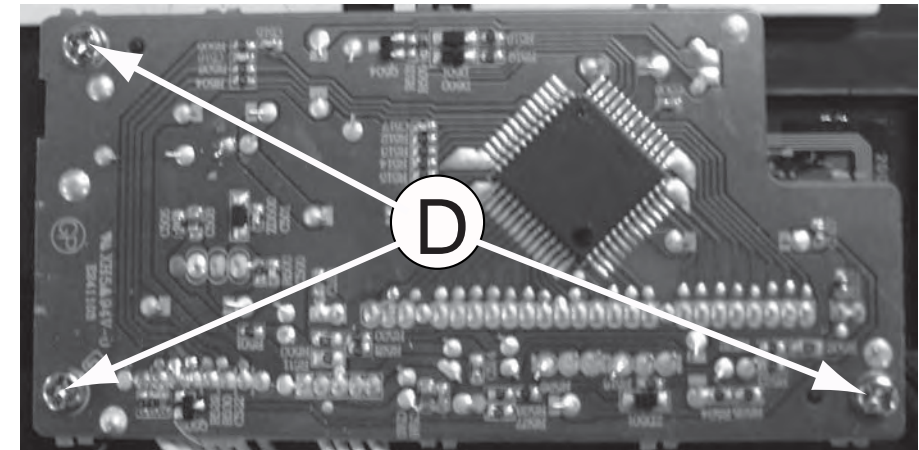

Figure 5
- 2) Loosen 3 screws "D" to remove the VFD PCB as shown in figure 5.